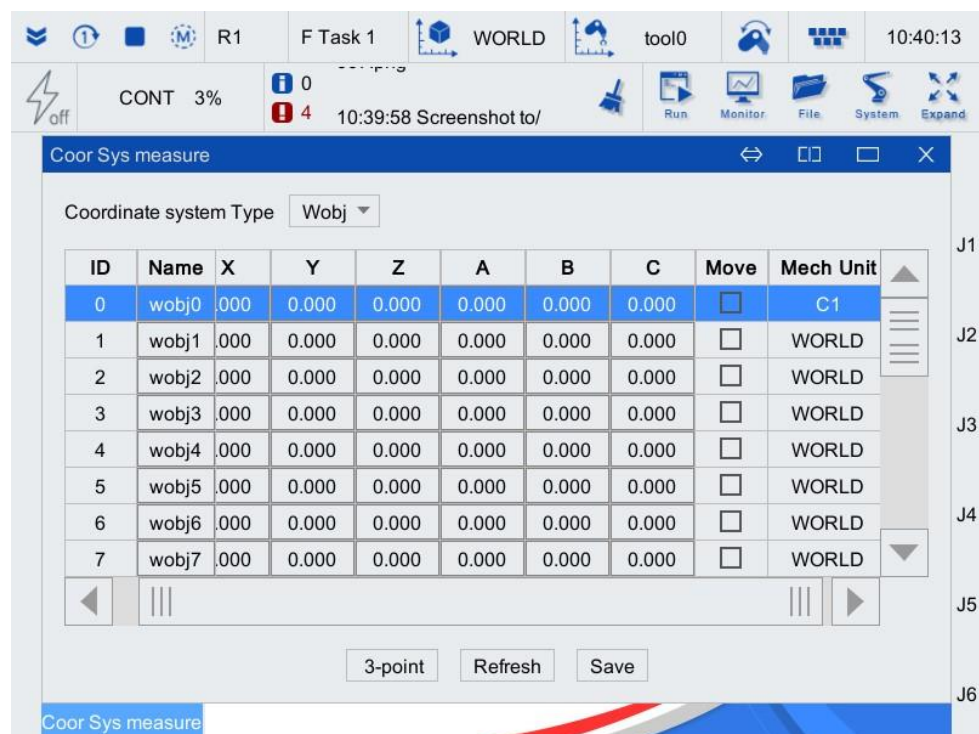

Figure 5-8 Select mechanical unit
Step10. Click to select the [Name] of the work object coordinate system to be calibrated, and modify the name of the [Mechanical Unit], for example, to "C1" (as shown in Figure 5-8).